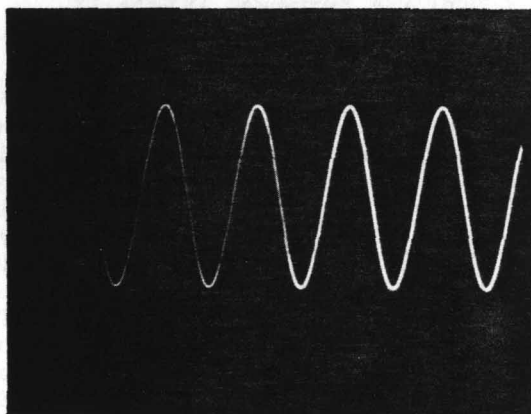

Figure 3-3. Variable persistence with a slow, repetitive sweep
b. For variable persistence operation, use minimum **INTENSITY** and maximum **PERSISTENCE** compatible with the desired display. (See Figure 3-3.)